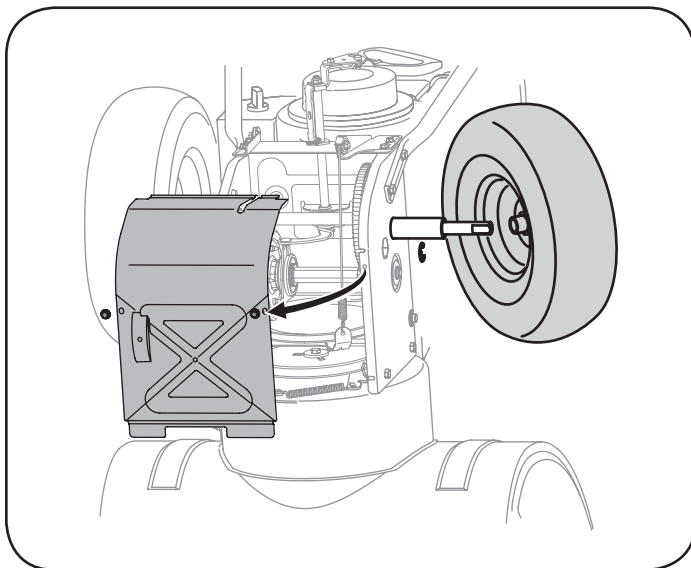

Figure 33
- Remove the right-hand wheel by removing the screw and bell washer which secure it to the axle. See Figure 33.